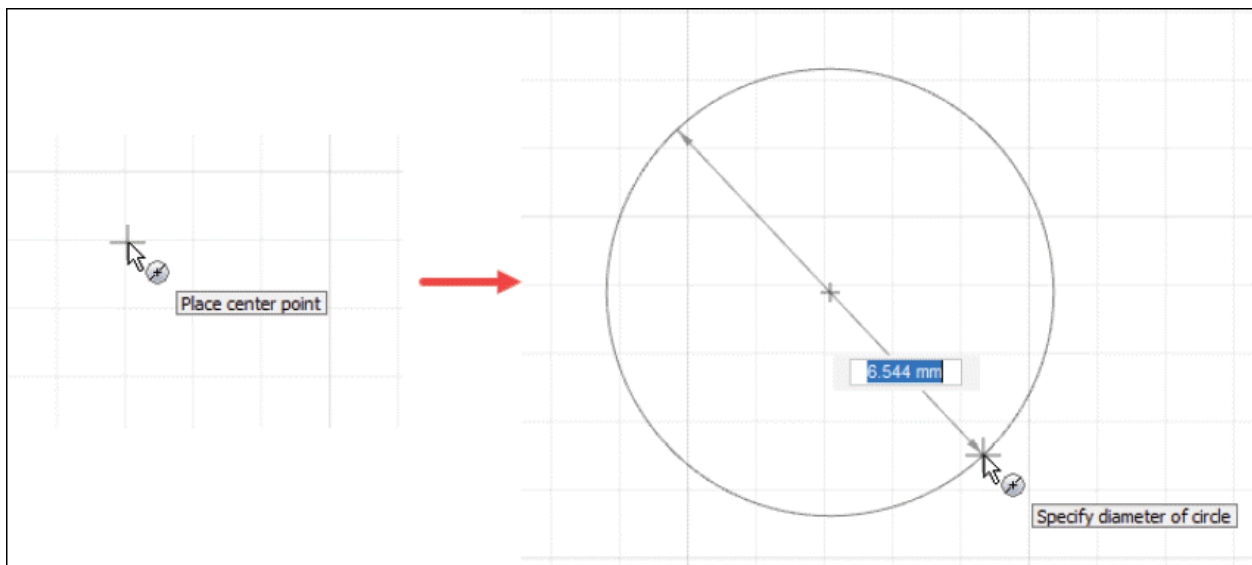
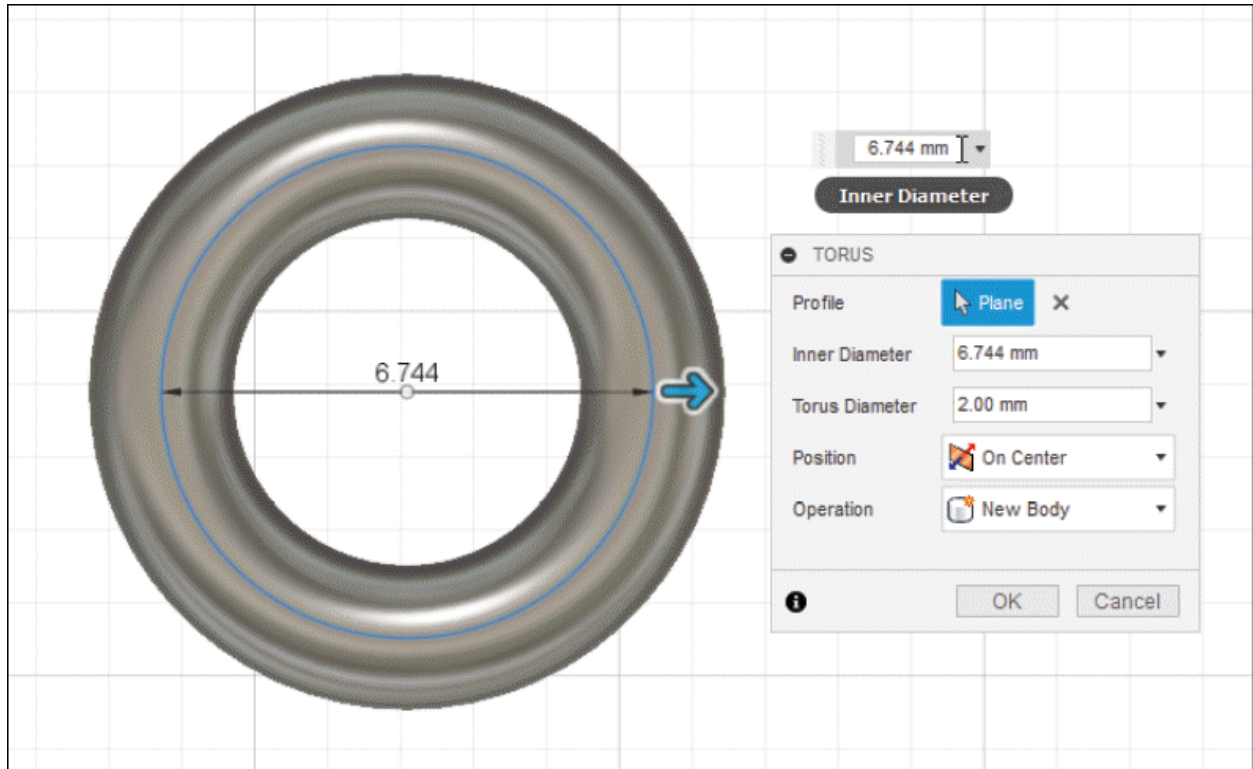

Figure-71. Specifying diameter of circle to create torus
Figure-72. Preview of torus with TORUS dialog box
- Click on the screen to specify center point of sketch. Specify the diameter of torus in dynamic input box and press **ENTER**; refer to Figure-71. The **TORUS** dialog box will be displayed along with the preview of torus; refer to Figure-72.